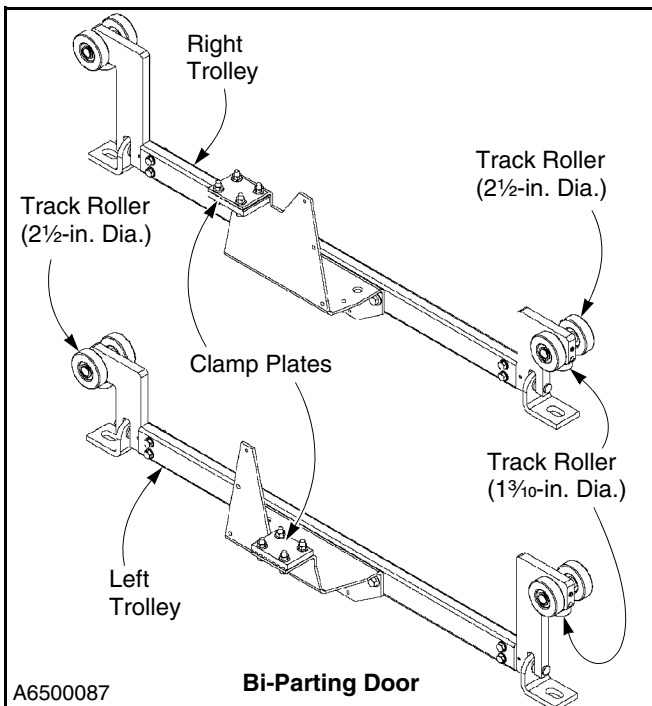
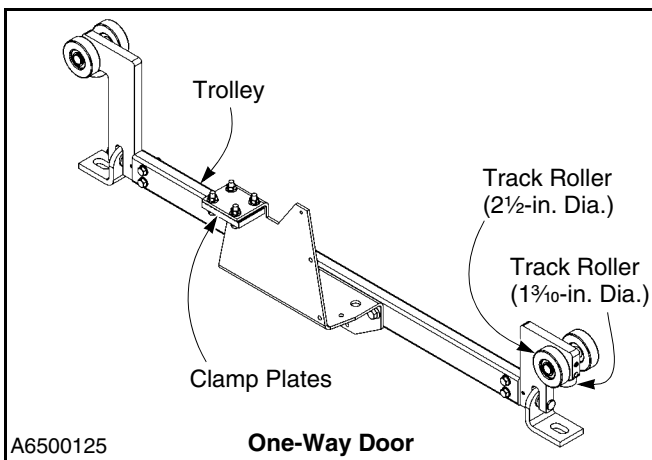

Figure 22
Figure 23
2. Inspect trolley assemblies for any loose or missing hardware. Tighten or replace hardware as required. (See Figure 22 and Figure 23.)